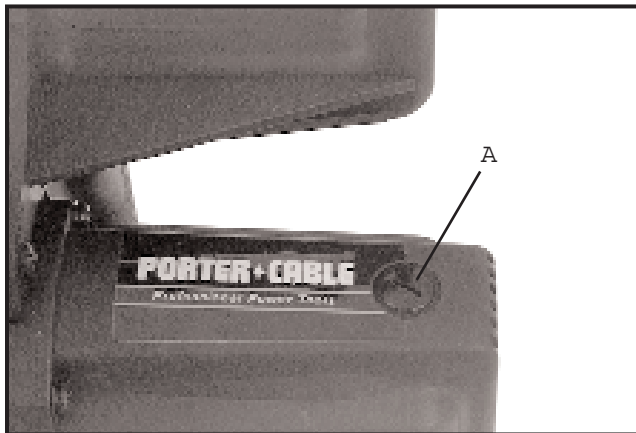
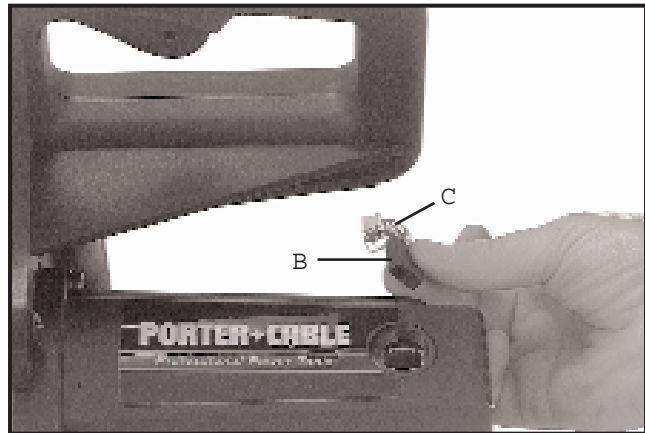

Fig. 54
Fig. 55
The brush holders (A) Fig. 54, are located on the motor housing opposite each other. Fig. 55, illustrates one of the brushes removed for inspection. When the carbon on either brush (B) is worn to $\frac{3}{16}$ " in length or if either spring or shunt wire (C) is burned or damaged in any way, replace both brushes. If the brushes are found serviceable after removing, reinstall them in the same position as removed.